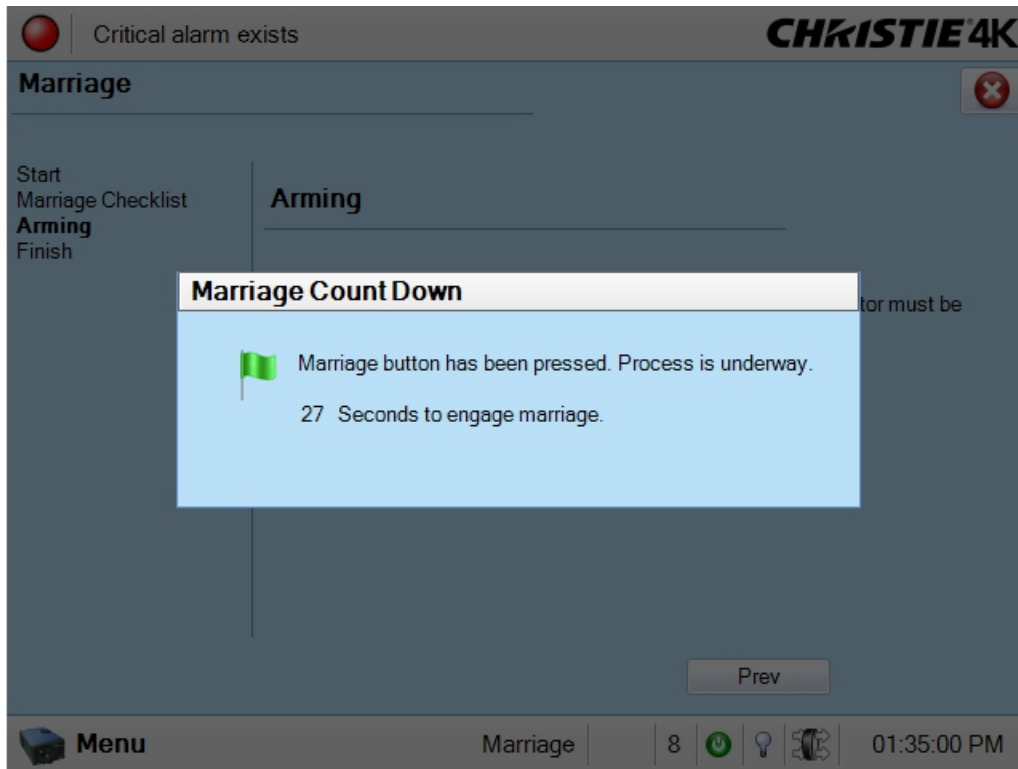

Figure 3-60
4. Upon clicking the Marriage button, a confirmation window displays the time remaining for marriage to complete. (**Figure 3-60**)